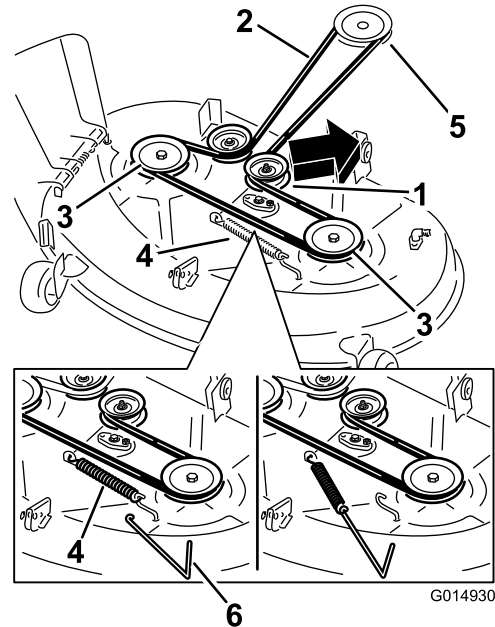

Figure 60
5. Using a spring-removal tool (Toro part no. 92-5771), remove the idler spring from the deck hook to remove tension on the idler pulley, and roll the belt off the pulleys (Figure 60).
6. Route the new belt around the engine pulley and mower pulleys (Figure 60).
7. Using a spring-removal tool, install the idler spring over the deck hook, and place tension on the idler pulley and mower belt (Figure 60).